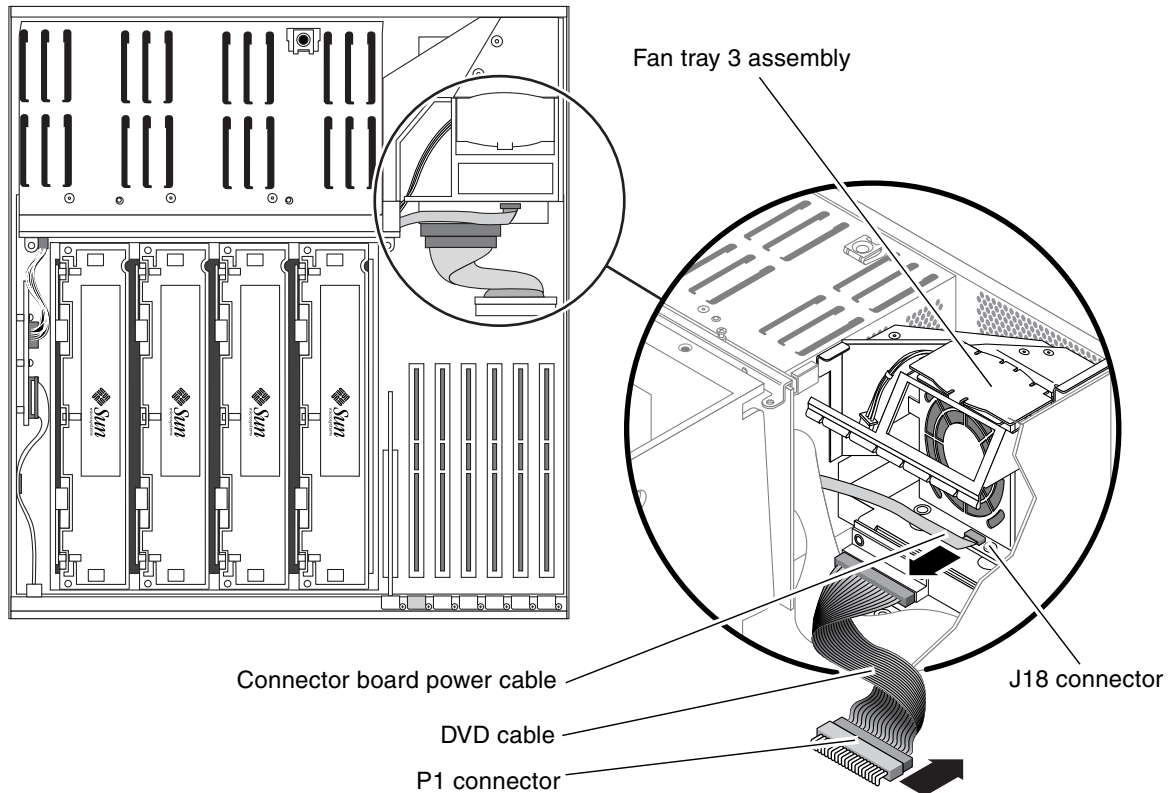

FIGURE 4-8 Locating J18 and P1 Connectors
9. Disconnect the connector board power cable from the J18 connector on fan tray 3 (FIGURE 4-8).
10. Disconnect the P1 DVD cable from the P1 connector on the motherboard (FIGURE 4-8).
7. Connect the connector board power cable at J18 on fan tray 3 (FIGURE 4-8).
8. Connect the DVD cable at P1 on the motherboard (FIGURE 4-8).